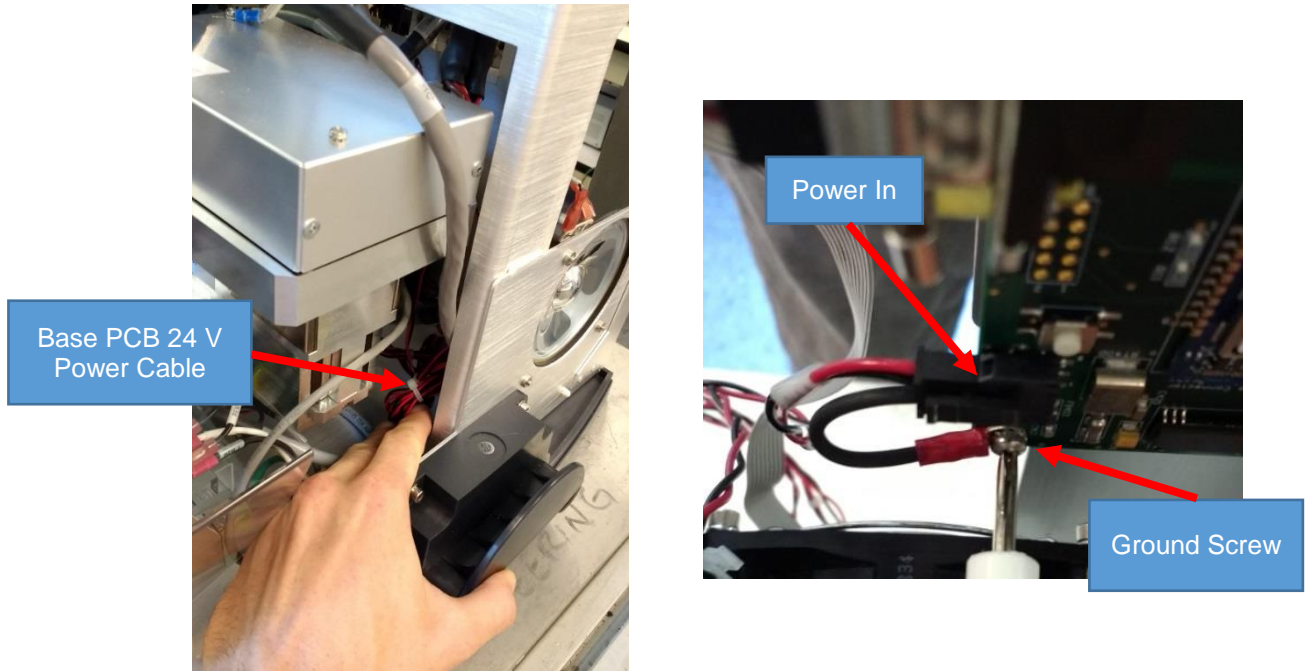

Figure 7: 24 V Power Cable
10) Unfurl the black/red wire (P1-RF) with the 24 V three-pin connector and the ground lug (Figure 7: 24 V Power Cable), which is tie rapped at the base of the leak detector, and: